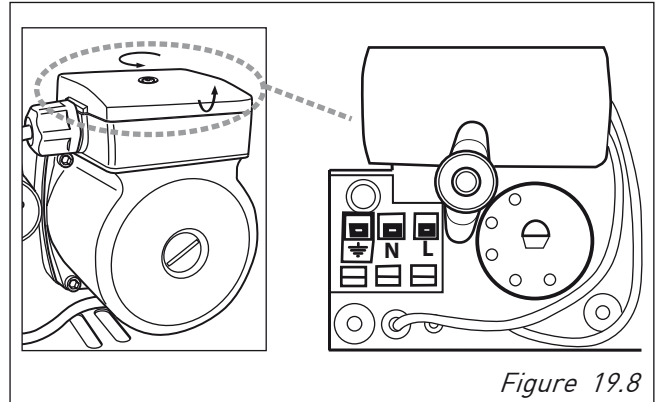

Figure 19.8
- Pull off the motor, remove the cover and disconnect the electrical leads from cable box Figure 19.8.